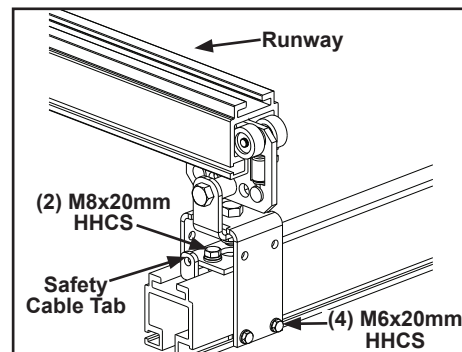

Figure 3-90
- Step 4. Use a lift assist to raise hangers and rail into position. See Figure 3-90.
- Step 5. Position end truck on bridge according to system layout and tighten two (2) M8 x 20 mm HHCS for the tap plate and the four (4) M6 x 20 mm HHCS on the two (2) side mounting bars to clamp end trucks in place. **Tighten until bolts are snug + ¼ turn.** Do not over tighten. Over tightening could cause bracket to bend.